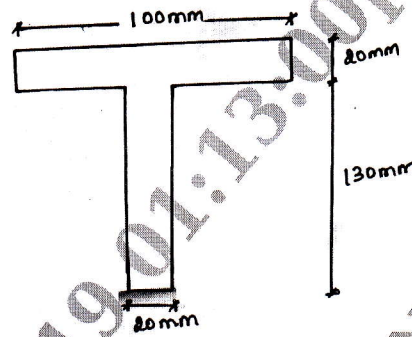

Fig.Q5(b)
b. A beam with cross section shown in Fig.Q5(b) is simply supported and carries a maximum bending moment of 16 kN-m. Calculate maximum compressive and tensile stress.